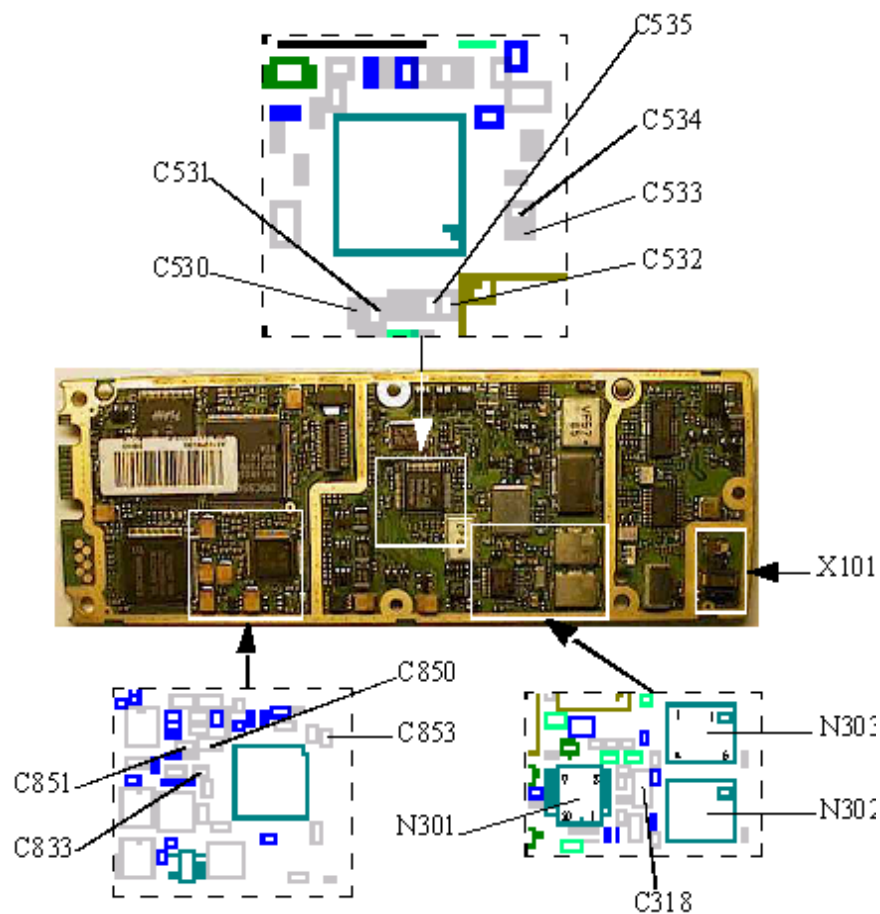

Fig. 2.1
Make sure the antenna connector (X101, class A, fig. 2.1) isn't damaged, badly soldered or dirty (glue, varnish, oxide...).
Check for bad solderings at C318 (class A), N302 (class B) and N303 (class B, all in fig. 2.1).
Measure the resistances of C530 - C535 (all six of class A, >200 kohms and in fig. 2.1)
Measure the resistances of C850 (>100 kohms, class A, fig. 2.1), C851 (>1 kohms, class A, fig. 2.1), C833 (>1 kohms, class A, fig. 2.1) and C853 (>100 kohms, class A, fig. 2.1).
Measure the DC voltage at pin 4 and 6 of N303 (fig. 2.1). The voltage at pin 4 (control voltage) should always vary between 0.8-2.8V (usually starts at 1.7V). The voltage at pin 6 (feed voltage) should also vary but usually starts at 3.3V.
- * If they're correct, replace N301 (class B, fig. 2.1).
Measure the resistances of C853 (>100 kohms, class A, fig. 2.1), L560 (~0 ohms, class A, fig. 2.2) and L223 (~0 ohms, class A, fig. 2.3).
Measure the resistances of C530-C535 (>200 kohms, all of class A, fig. 2.1). Check the solderings at Z250, Z500, Z201 (GSM900), Z202 (GSM1800, all in fig. 2.2) and Z205 (fig. 2.3).